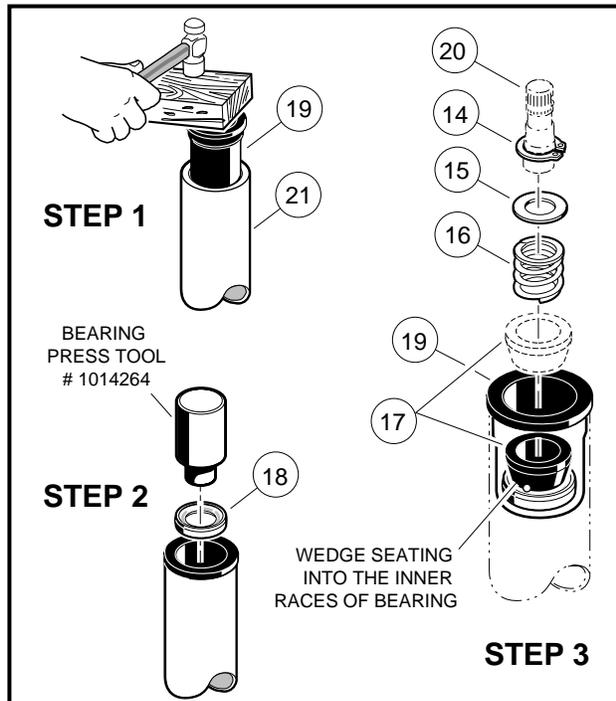

Figure 7-3 Bottom End of Steering Column
- Insert the bearing seat (19) into the steering tube (21). Place a block of wood on the bearing seat and tap lightly on the block until the bearing seat is fully seated in the steering tube (**Figure 7-3, Page 7-5**).
- Press the bearing (18) all the way into the bearing seat (19) using a steering column bearing press tool (Club Car Part No. 1014264) or a metal tube approximately 6 in. (15 cm) long with a maximum outer diameter of 1-3/16 in. (3.3 cm) and a minimum inside diameter of 7/8 in. (2.2 cm). Be sure the bearing is installed in the bearing seat as shown (**Figure 7-3, Page 7-5**) so that the wedge (17) will ride against the inner race of the bearing.
- Install the wedge (17), spring (16), washer (15), and snap ring (14) onto the bottom end of the steering shaft (20) (**Figure 7-3, Page 7-5**).